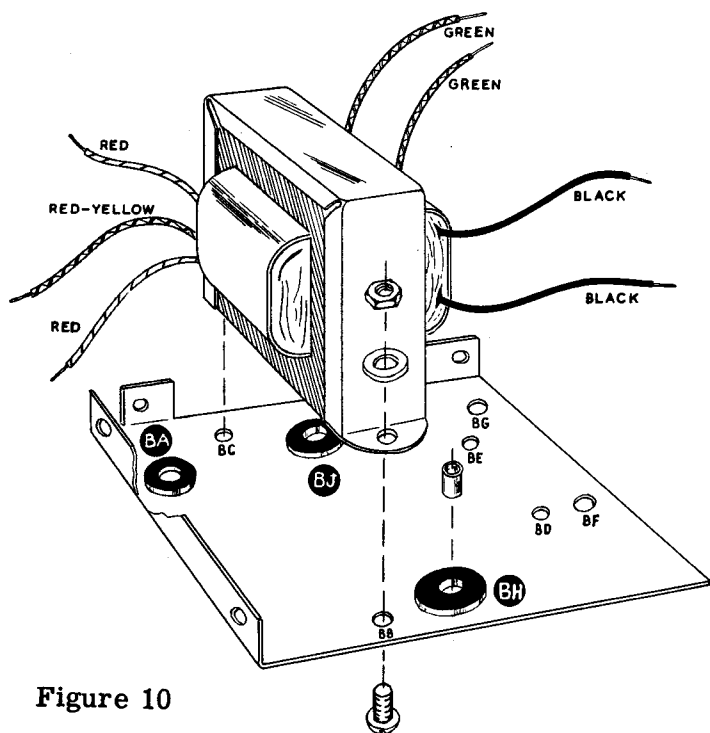

Figure 10
- (✓) Identify the left end bracket, which is plain aluminum with bends on the bottom and one end only. See Figure 10. Install a 3/8" grommet at location BA.